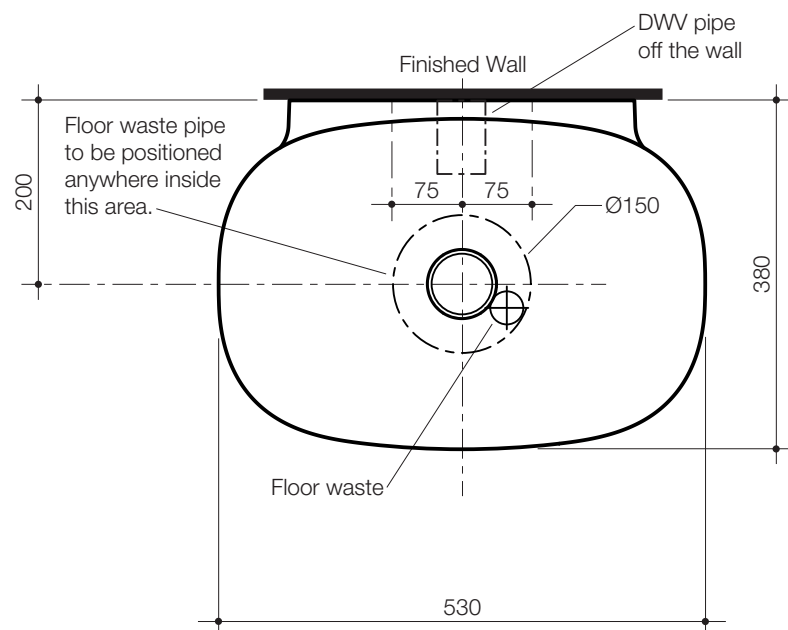

Fig. 1
**For S-trap Installation:** Position the basin over the floor waste pipe, push the basin against the wall and keep the floor waste within Ø150mm of the basin waste centre, as shown in Fig. 1.
**For P-trap Installation:** Position the basin so the DWV pipe off the wall is within 75mm left or right of the basin centre line, as shown in Fig. 1.